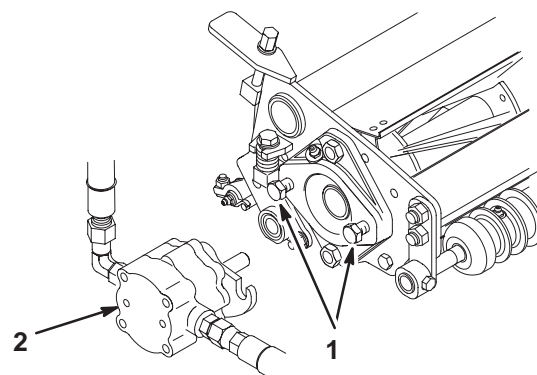

Figure 11
7. Assemble the mounting capscrews for the reel drive motor to each cutting unit. Leave approximately 1/2 in. (13 mm) of threads exposed on each mounting capscrew (Fig. 11).
10. Coat the spline shaft of the motor with clean grease and install the motor by rotating the motor clockwise so that the motor flanges clear the studs. Rotate the motor counterclockwise until the flanges are encircling the studs. Tighten the mounting capscrews (Fig. 11).